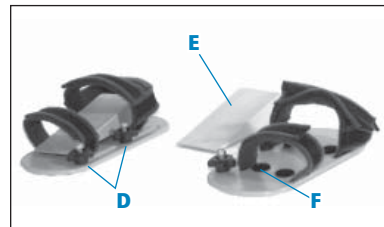

Figure 7a. Pair of sandals with wedges
1. Use knobs (D) to adjust sandal forward and back, side to side, and to desired foot angle on platform. Dual knob adjustment provides versatile foot positioning (see Figure 7a).
2. Wedges (E) can be used to elevate the toe or heel according to the child's needs. Hook on the bottom of wooden wedge adheres to loop dots on sandal, (F). If one of the child's legs is shorter two wedges can be combined and placed underneath the foot to raise it. To combine two wedges, the extra loop dots provided should be placed on face (E).